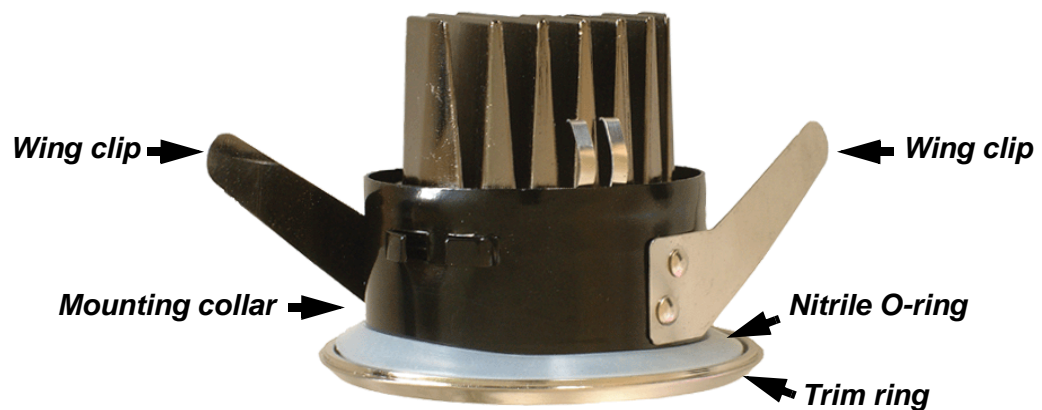

Figure 1: Plasterboard mount collar
1. See Figure 1. Check that the trim ring is fully fastened onto the luminaire and that the first of the supplied nitrile O-rings is located in the recess in the trim ring.
2. Clip the plasterboard mounting collar supplied with the fixture over the luminaire housing and place the second nitrile O-ring (arrowed in Figure 1) over the collar so that the collar is sandwiched between two O-rings.